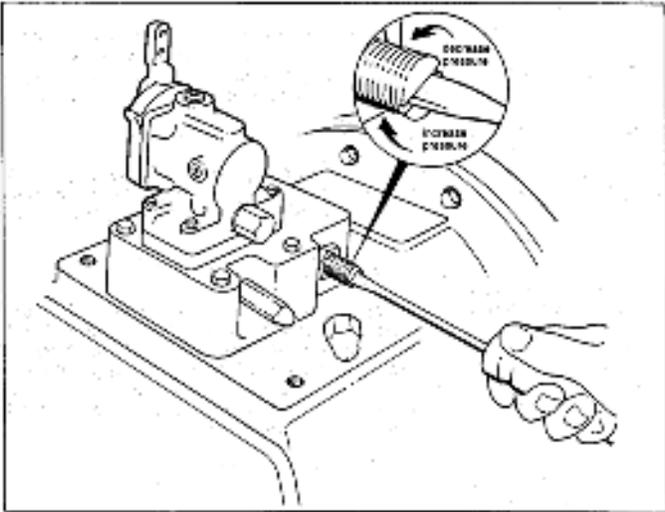

Fig. 17. Adjustment of oil pressure
Normally, unit pressure at idle start-up will be 180 PSI, but final adjustments must be made as noted above. See figure 17 below.
Pressure adjustment See fig. 17, page 10.
At periodic intervals record pressure readings at idle speed, a gradual decline is normal. Readjust pressure relief valve to maintain proper operating pressures. See fig. 17, p.10.
5. Worn or incorrect adjusted pump assembly.	Refer to oil pump section (page 17) or fig. 17, p.10.